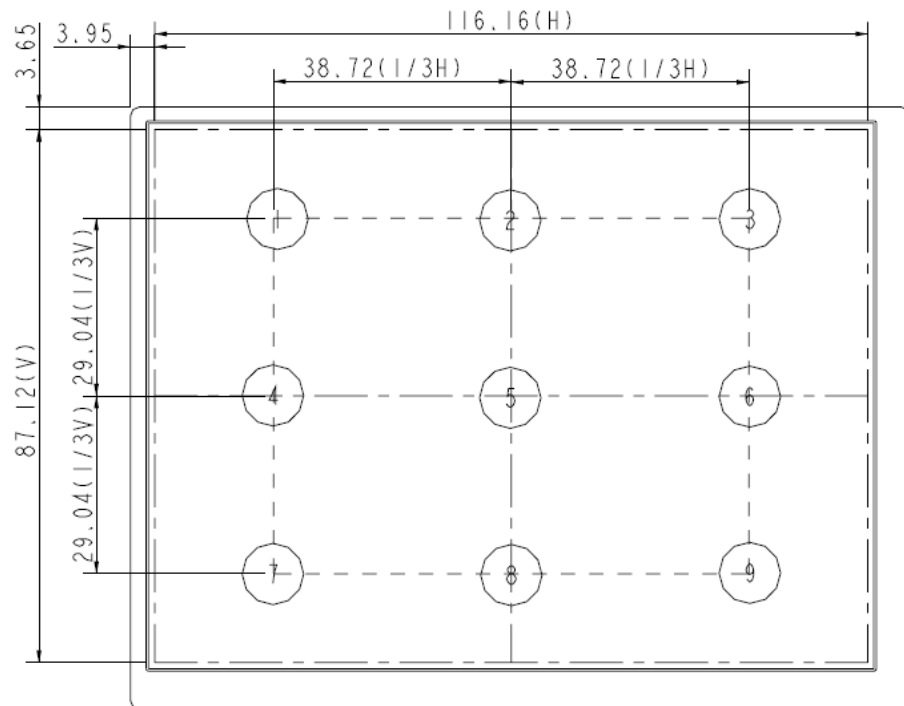

Fig9-1 Measuring point
- (3) Definition of Luminance :
- Measure white luminance on the point 5 as figure9-1
- Measure white luminance on the point 1 ~ 9 as figure9-1